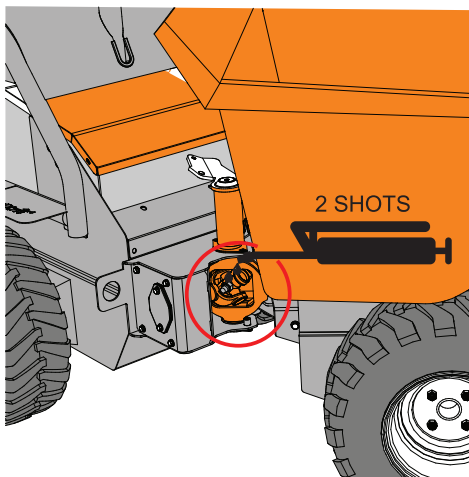

**Figure 65. Lubricating Drive Chains**
8. Using chain lube lubricant (Figure 65), lubricate each rotating chain.